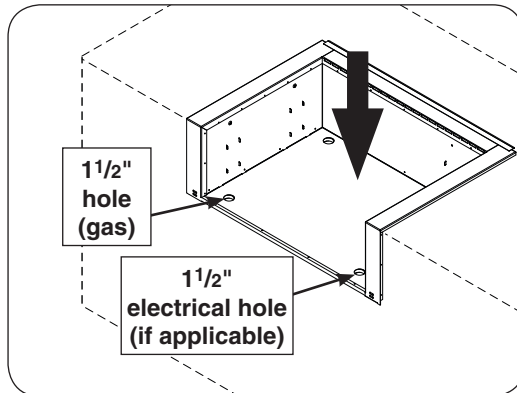

Fig. 4-1 Install insulating liner
1. Install the insulating liner as shown in Fig. 4-1.